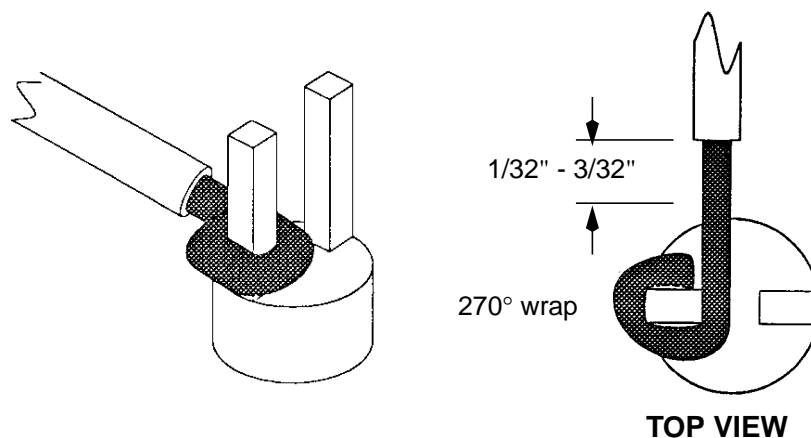

Figure 1 - Mechanical Hook-Up of Bifurcated Terminals
- 5.6.1 Wrap the wire lead approximately 270° around the fork (see Figure 1). If soldering two or more wire leads to one bifurcated terminal, wrap the wires alternately on each fork.